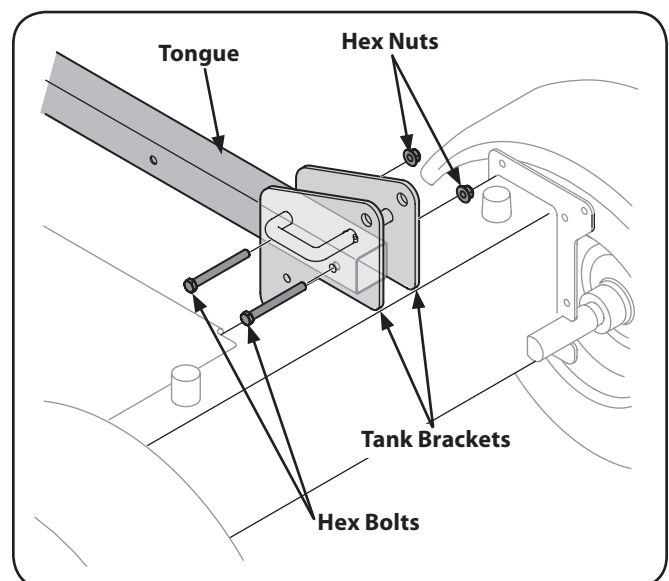

Figure 3-2
9. With the log splitter still secured to the bottom of the crate, remove two hex bolts and hex nuts from the tank bracket and remove the piece of wood inside the tank brackets. See Figure 3-2.
- Align the holes in the tongue with the holes in the tank bracket and secure with the hardware just removed. See Figure 3-2.